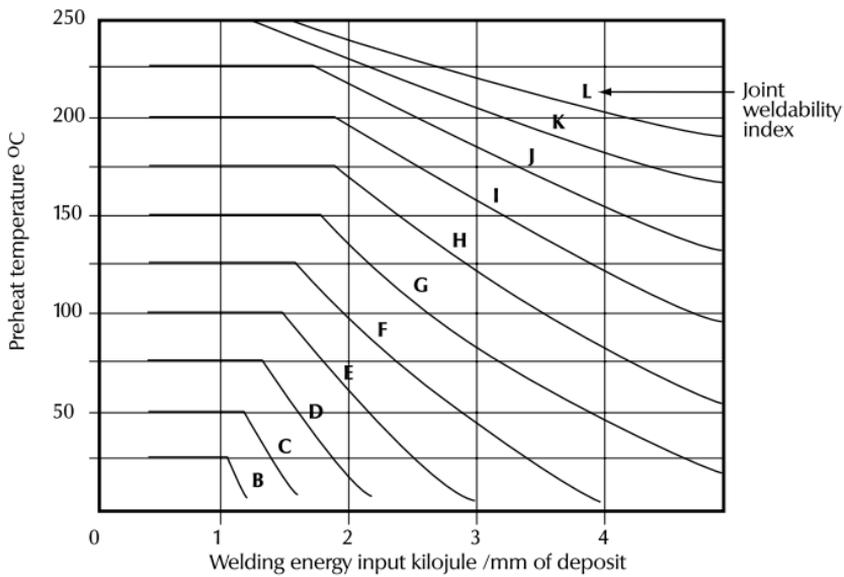

Figure 2 - Determination of preheat requirements for hydrogen controlled electrodes (EXX16, EXX18, EXX28 & EXX48) semi-automatic and automatic welding process.
4. Cross reference the joint weldability index, with the expected welding energy input ( in KJ/mm ) on Figure 2\* or 3\* to calculate the appropriate preheat temperature.
\*Note: if a **hydrogen controlled welding consumable** is to be used, refer to Figure 2;
3. Preheat temperatures should be determined in accordance with the requirements of Figure 2 or 3 with the preheat temperature being maintained between subsequent weld passes.